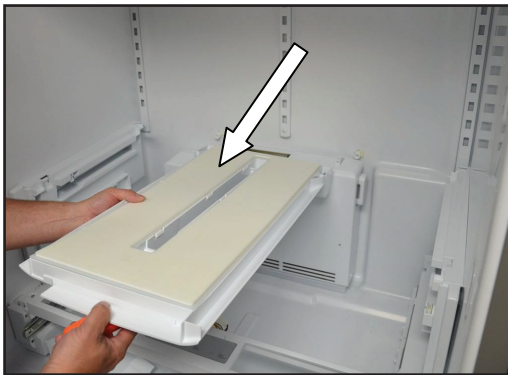

FIGURE 26
3. Drop down the air tower and remove. See *Figure 26*.